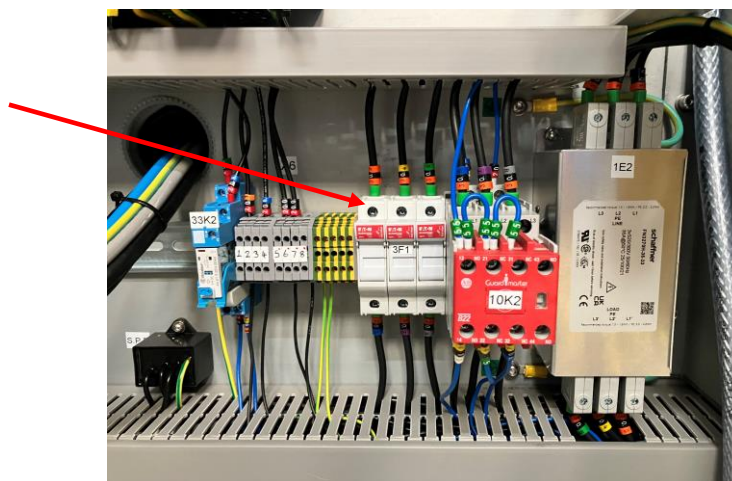

Figure 8 - 3F1 fuse holder
4. Locate the 3-phase fuse holder labelled “3F1”. See *Figure 8 - 3F1 fuse holder*.